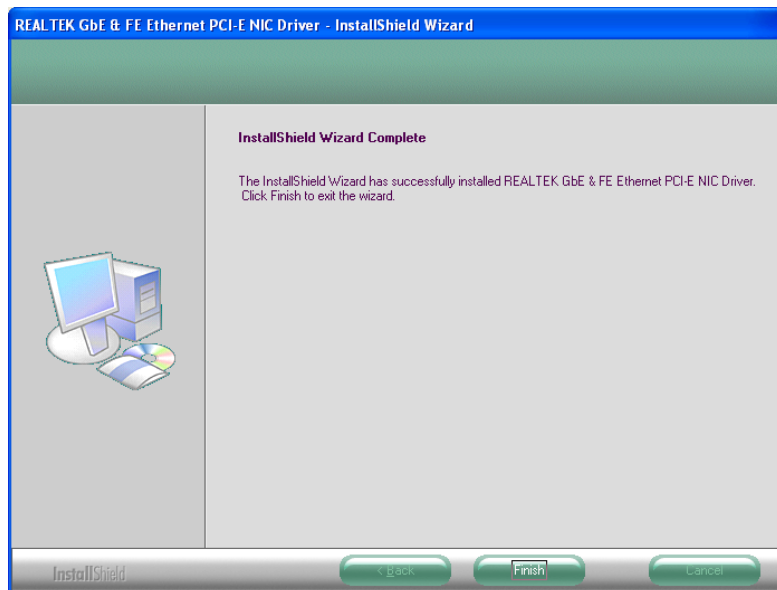

Figure 6-17: LAN Driver Installation Complete
Step 9: When the driver installation is complete, the screen in **Figure 6-17** appears.